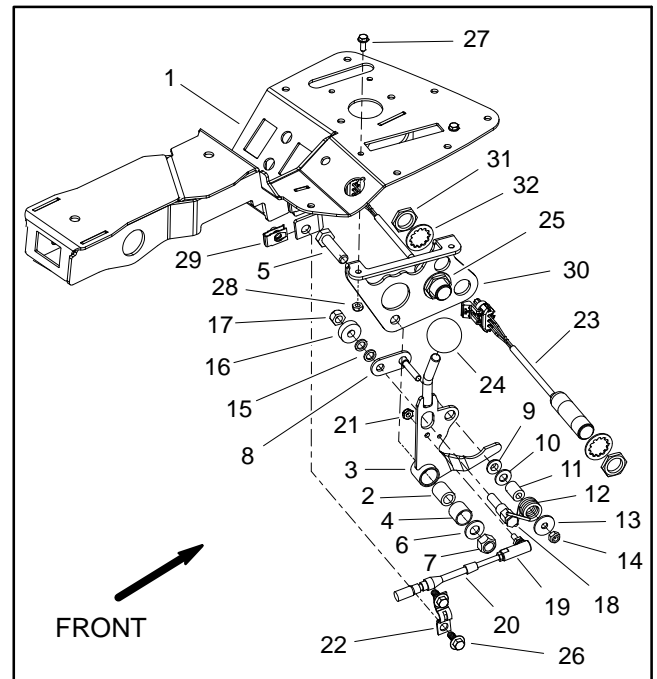

Figure 13
4. Disassemble functional control lever assembly as needed using Figure 13 as a guide.
1. If functional control lever assembly was disassembled, assemble control lever using Figure 13 as a guide.